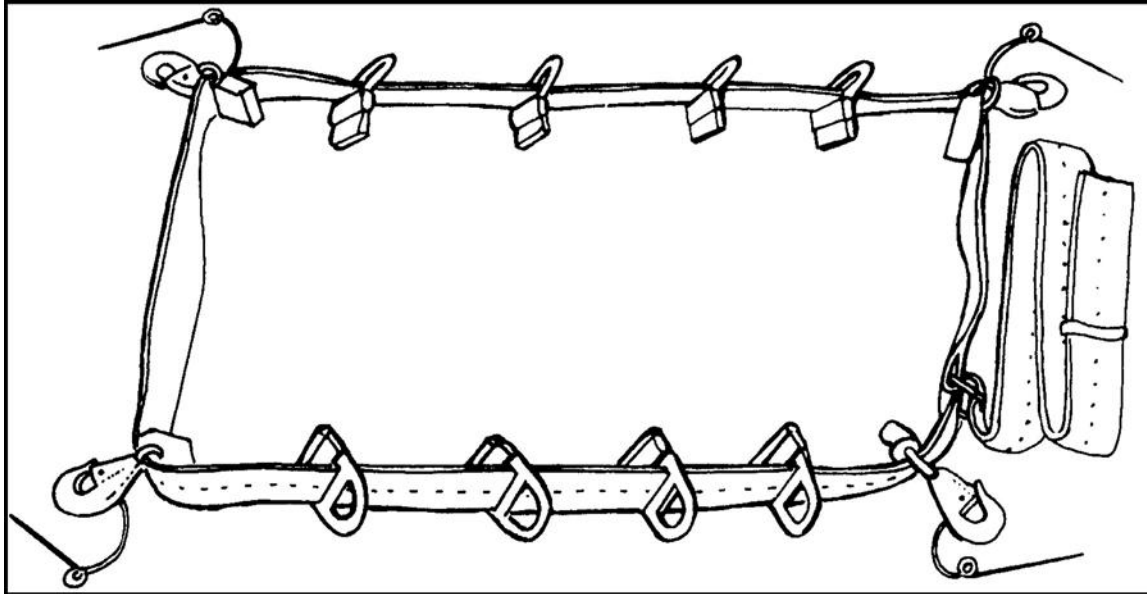

Figure 17-9. UH-60A modified anchor line.
b. **Modified Anchor Line System.** Install a floor-mounted anchor line system (Figure 17-9, page 17-10) using a modified STABO extraction system anchoring strap assembly made from type XXVI nylon webbing (NSN 1670-00-999-3544, TM 10-1670-262-12&P and TM 10-1670-251-12&P). To modify the STABO, remove two of the connector snaps (leaving four) and add two D-rings (NSN 1670-00-360-0466). The cotton buffers may be locally manufactured.